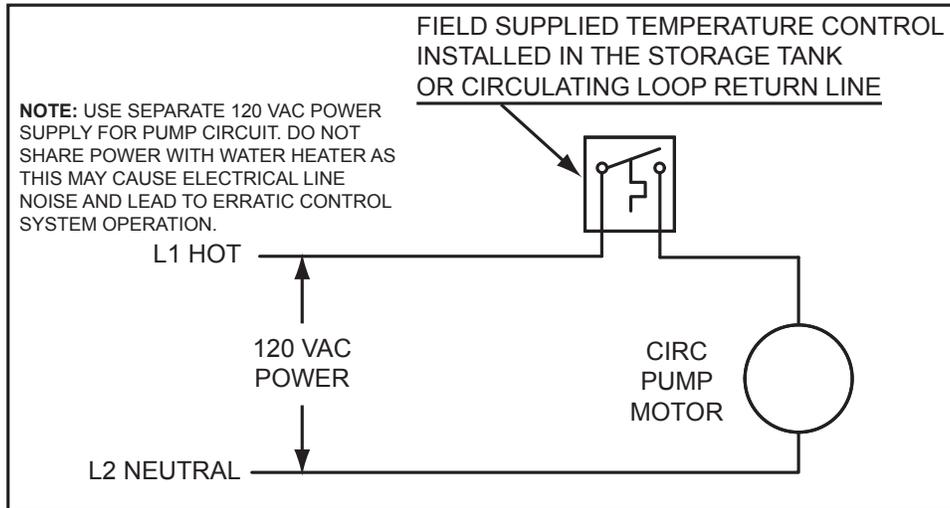

Figure 68. Circulating Pump Wiring Diagram - Storage Tank or Building Recirculation
6. If a pump is being installed between a water heater and storage tank or on a building recirculation loop wire according to *Figure 68* (page 71).